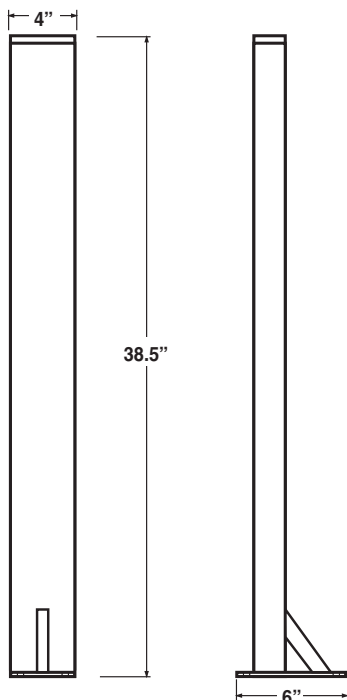

Figure 1.
3. Install the mast to the floor using appropriate fasteners (not included) as shown in **Figure 1**. Install structural floor reinforcement if necessary.